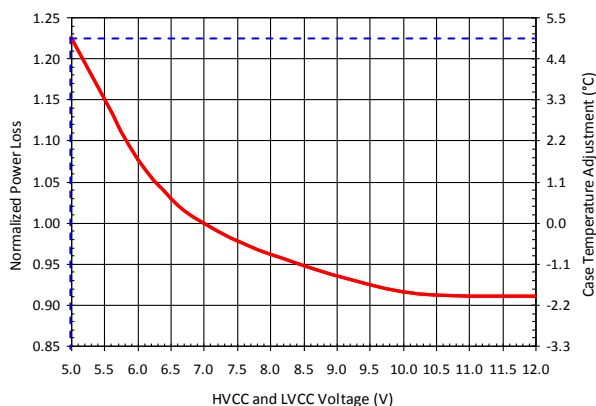

Figure 14: Normalized Power Loss vs. HVCC & LVCC Voltage
- 5) Determine the MOSFET drive voltage normalizing factor with PVCC (HVCC/LVCC) = 5V, which is 1.22 based on the dashed lines in Figure 14.
- 12) Determine the case temperature with PVCC (HVCC/LVCC) = 5V, which is $+4.9^{\circ}$ based on the dashed lines in Figure 14.